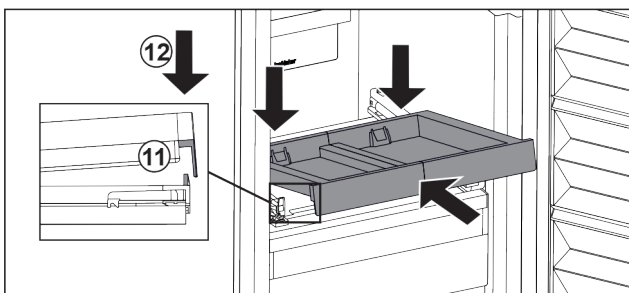

Fig. 198
- ▶ Slide in at an angle. Make sure that the stop is behind the lug on both sides. Fig. 198 (11)
- ▶ Lower the pull-out board at the front. Fig. 198 (12)